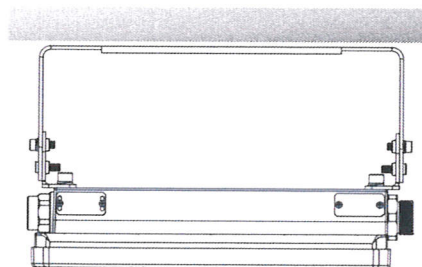
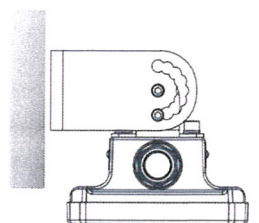

Figure 1
Figure 2
- The mount bracket is for the use of both ceiling mount (Figure 1) and wall mount (Figure 2).